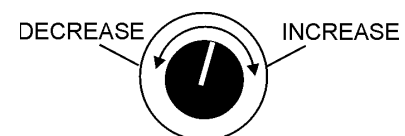

Figure 31. Voltage Regulator Knob (1Ø-240V/120V)
3. Turn the voltage regulator knob (Figure 31) clockwise to increase voltage output, turn counterclockwise to decrease voltage output.